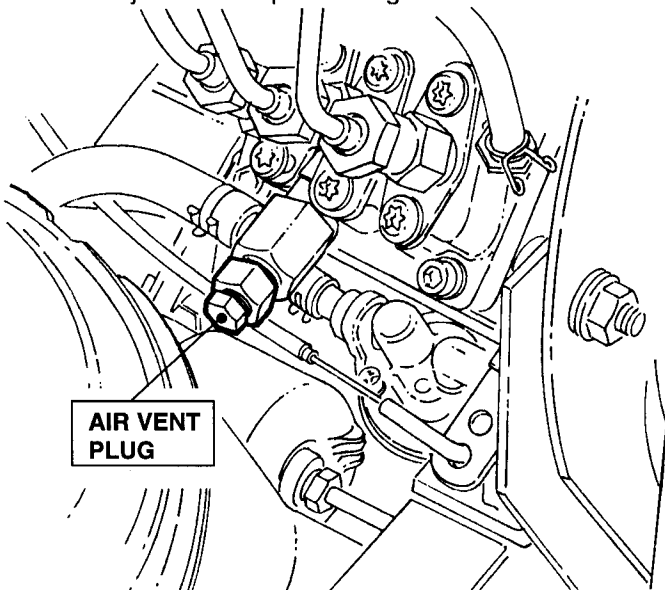

FIGURE 5.4
5. Loosen the Air Vent Plug on top of the Fuel Injection Pump. See Figure 5.4.
6. Allow air bubbles to be released. Retighten Plug when bubbles stop. Refer to Figure 5.4.